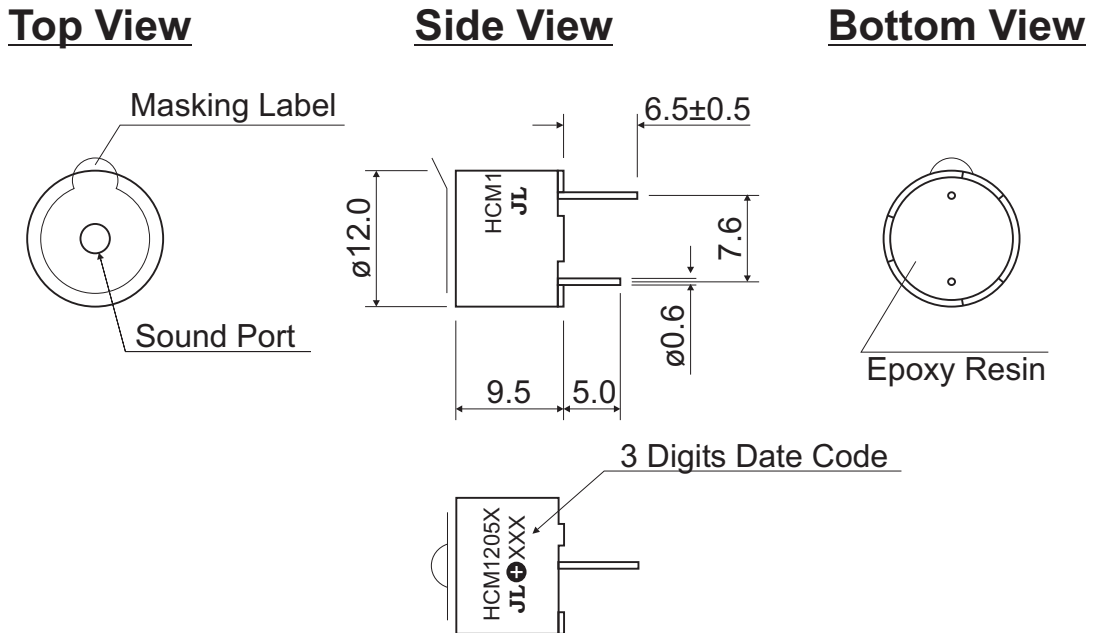

Figure 3. HCM1205X Mechanical Layout
- 4.3.1. Layout and Dimension : See Section 6, Figure 3